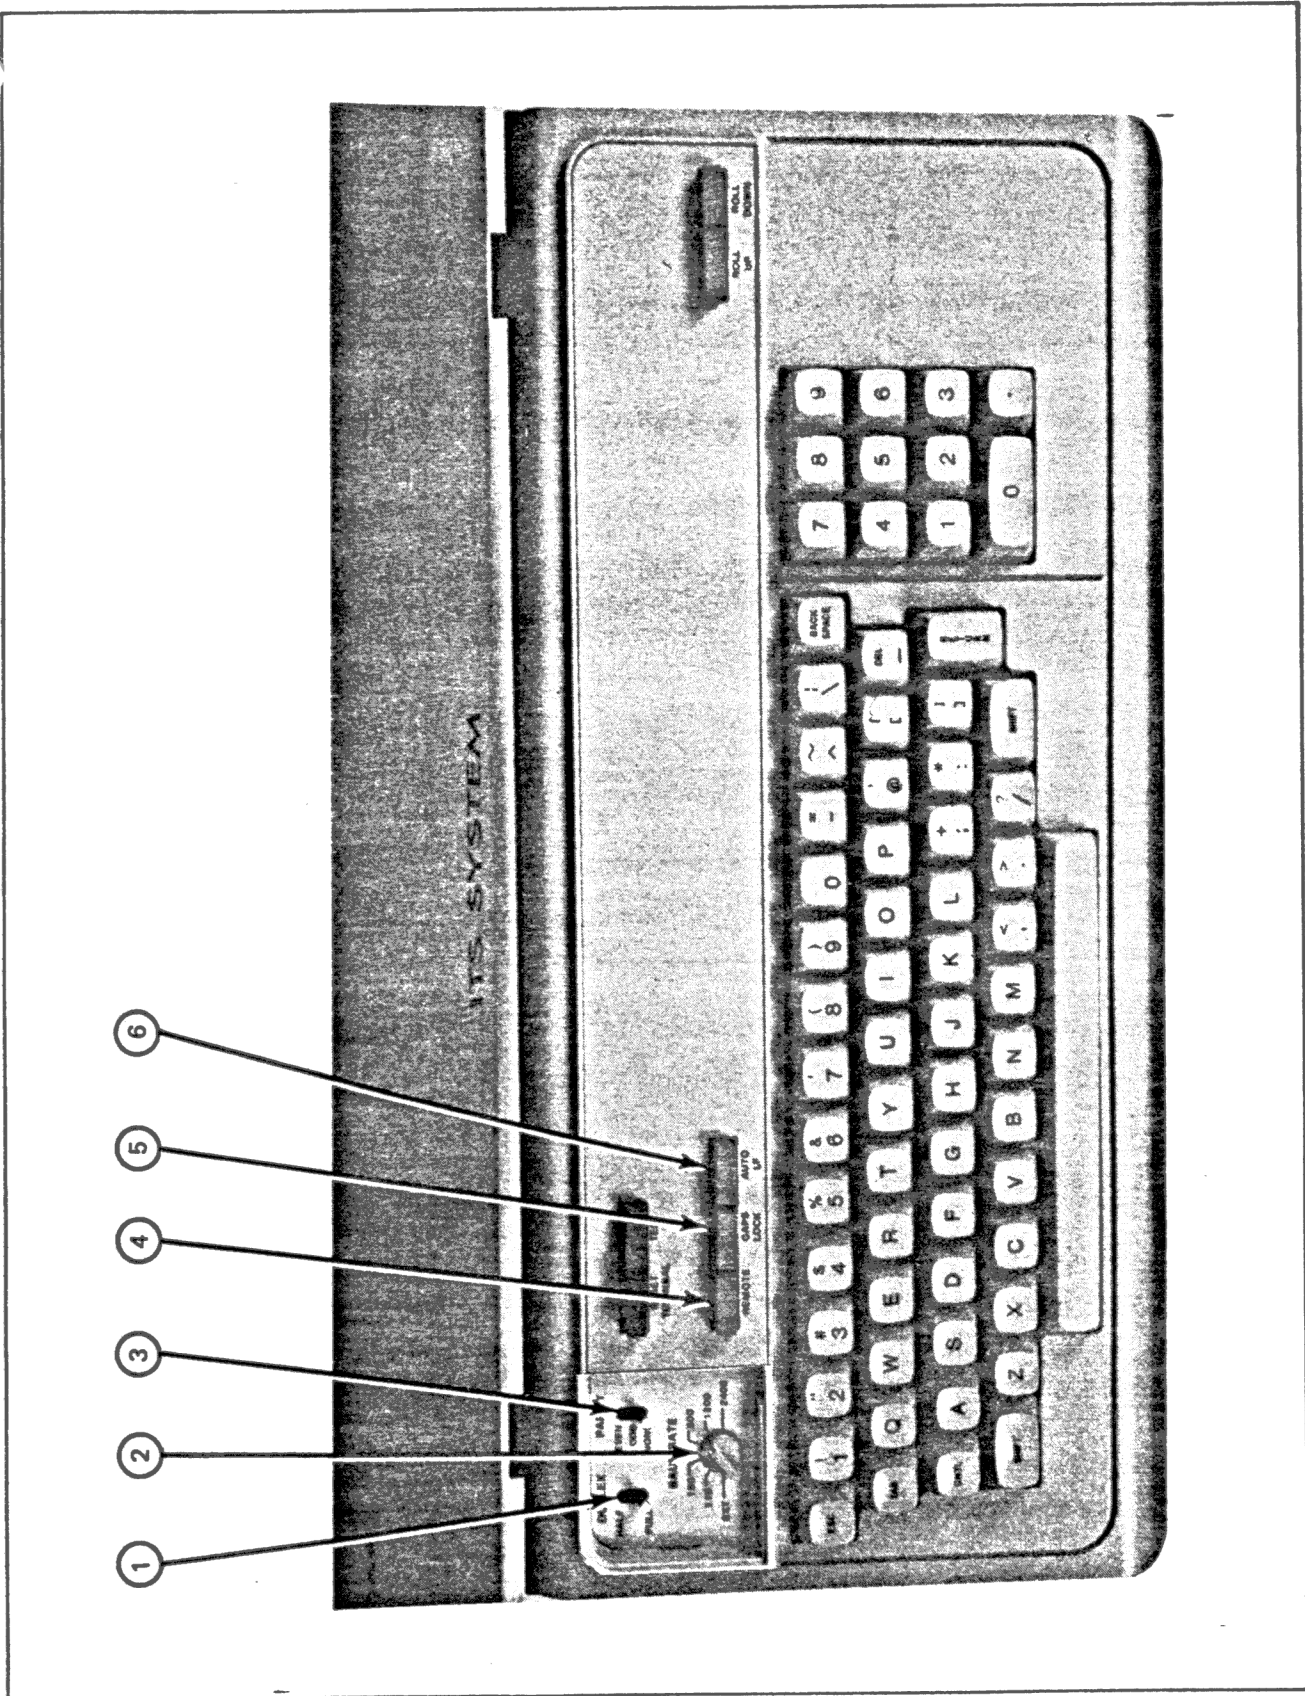

Figure 3. CRT and Keyboard, Controls and Indicators
2.03 The CRT and keyboard assembly provides operator interface for the primary ITS System. Commands and data are entered on the keyboard by the operator. The CRT displays all data entered on the keyboard, abbreviated traffic reports, error codes, and controller messages. Controls and indicators of the CRT and keyboard are illustrated in Figure 3. Switch settings are listed in Table 2.